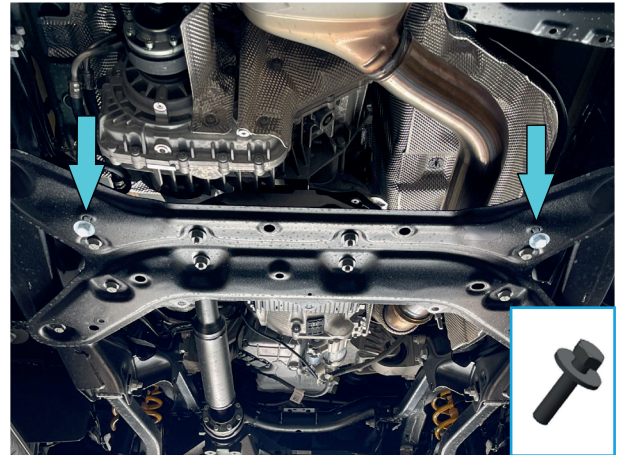

Fig. 2
2. Loosen bolts M10x30 with washers 10 (item B, C) into insert nuts M10 from step 1 (fig. 2).